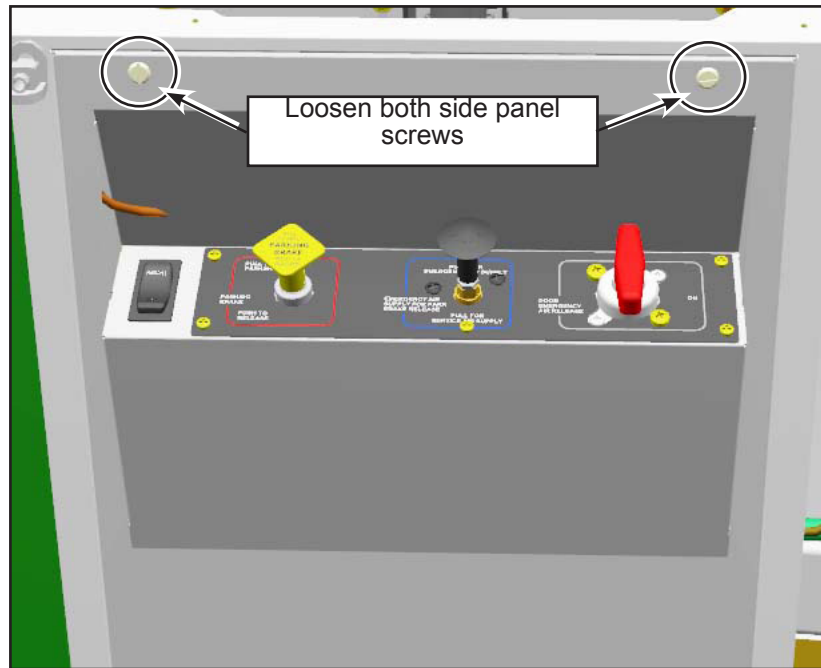

Figure 2 - Loosen Both Side Panel Screws
- 1.3. Loosen both side panel screws (see Figure 2).